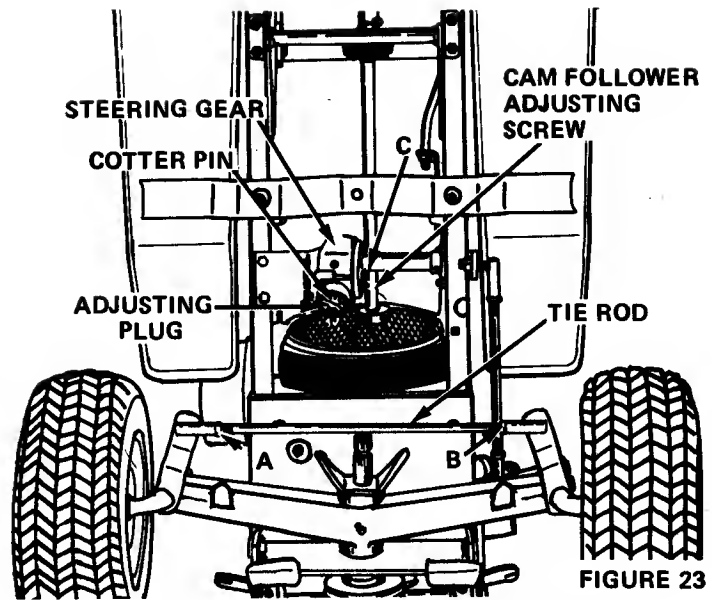

FIGURE 23
1. Loosen jam nuts A and B, Figure 23.
2. Remove cotter pin identified in Figure 23.
3. Loosen jam nut C, Figure 23 and turn adjusting screw out (counter-clockwise)  $1\frac{1}{2}$  turns.
4. Tighten adjusting plug, Figure 23, to 10-14 ft. lbs. of torque.
6. Hold jam nut and turn adjusting screw, Figure 23, clockwise (in) until backlash is removed from steering wheel. **DO NOT FORCE ADJUSTING SCREW.** Torque jam nuts 35-45 ft. lbs. while holding adjusting screw in position.